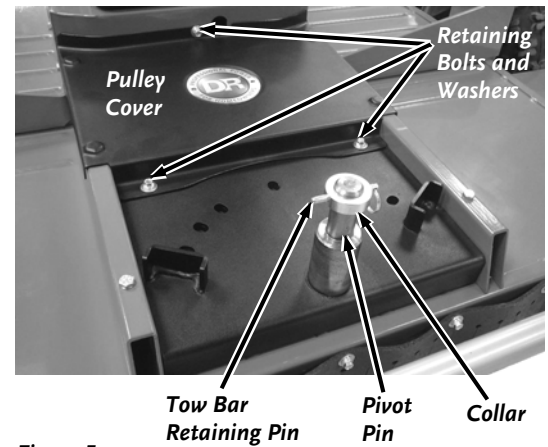

Figure 5
1. Using a 3/8" Wrench or Socket, remove the three (3) Bolts and Washers that retain the black Pulley Cover and remove the Cover (**Figure 5**).